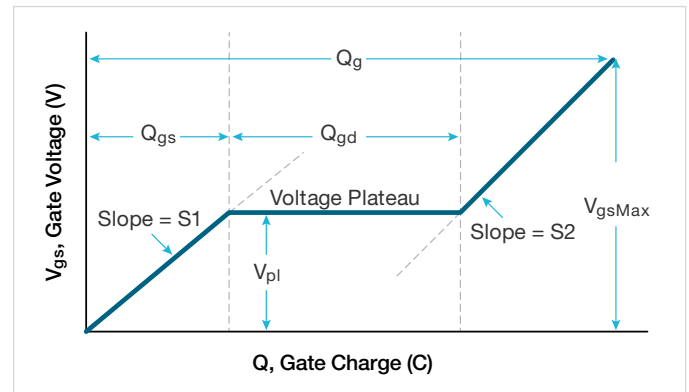

Figure 1. Typical gate voltage vs. gate charge of power MOSFET.
Figure 1 is a graph of the gate voltage vs. gate charge of a power MOSFET.
The gate charge (Q) is derived from the forced gate current and time, ($I_g dt$). The gate-source charge (Q_{gs}) is the charge required, as shown in **Figure 1**, to reach the beginning of the plateau region where the voltage (V_{gs}) is almost constant. The plateau (or Miller) voltage (V_{pl}) is defined, according to the JEDEC standard, as the gate-source voltage when dV_{gs}/dt is at a minimum. The voltage plateau is the region when the transistor is switching from the OFF state to the ON state. The gate charge required to complete this switching, that is the charge needed to switch the device from the beginning of